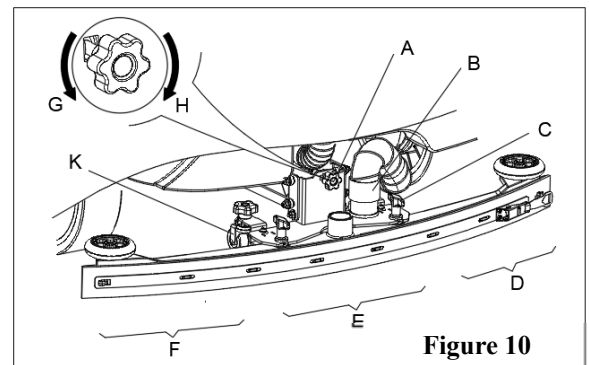

Figure 10
1. Install the squeegee and tighten up the nuts (C, Figure 10), then connect the vacuum hose (B) to the squeegee.
2. Adjust the squeegee by squeegee adjusting knob (A).
- a) If there is a gap between the ground and middle section of rear squeegee blade (E), adjust the knob (A) in clockwise direction (H) until all sections of the rear squeegee blade make good contact with the ground, and the front blade touches the ground slightly.
- b) If there is a gap between the ground and both end sections of the rear blade (D and F), adjust the knob (A) in counterclockwise direction (G) until all sections of the rear squeegee blade make good contact with the ground, and the front blade touches the ground slightly.